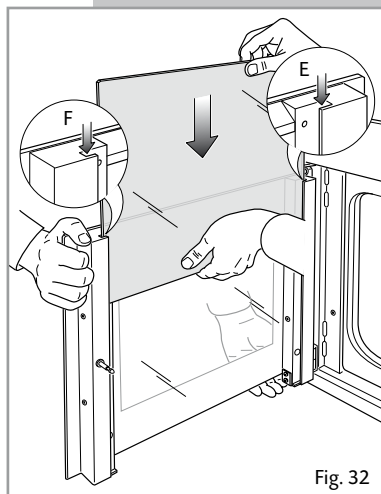
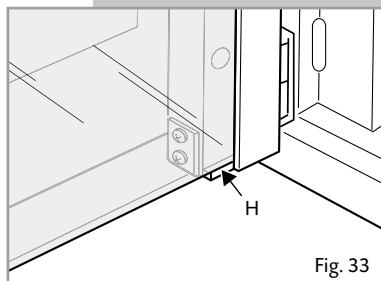

Fig. 32
Fig. 33
- Whilst one person holds the door still, a second person should insert the inner pane in the left **E** and right **F** side guides (fig. 32) and gently let it slide up to the retainers **H** (fig. 33). Forcible replacement of the door glass may lead to damage of the door hinges.